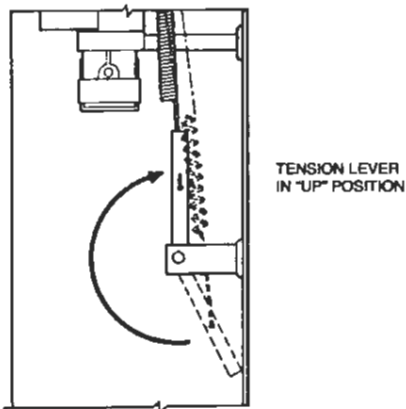

FIGURE 34
13. Make certain tension lever is in the "UP" position. See Figure 34.